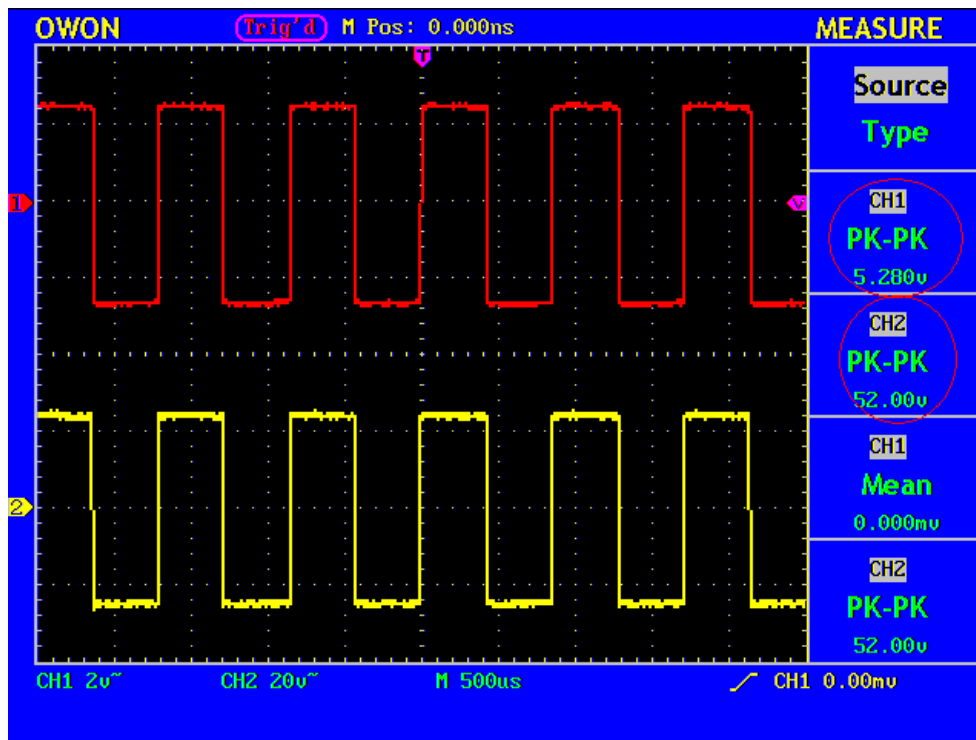

Fig. 109 Wave Form of Gain Measurement
10. Read the peak-to-peak values of Channel 1 and Channel 2 from the displayed menu (see Fig. 109).